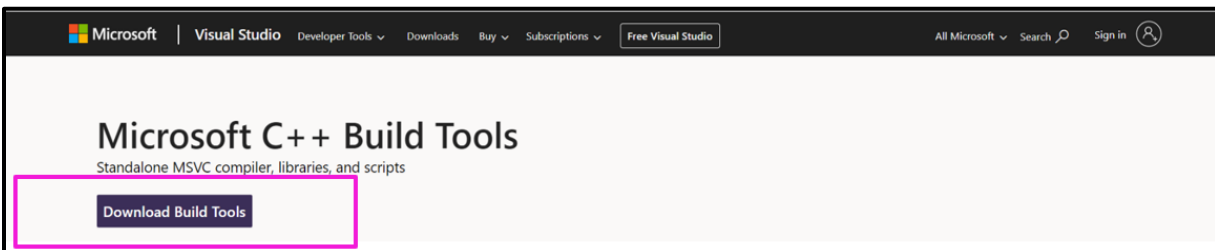

Figure 117. Select Download Build Tools.
- Go to: <https://visualstudio.microsoft.com/visual-cpp-build-tools/> and click Download Build Tools (Figure 117).